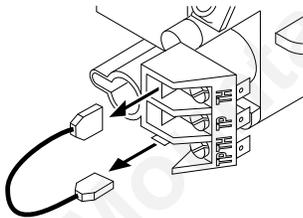

Figure 40 - Disconnecting TH to TPTH Wire
5. Remove wire from TH to TPTH on control valve (see Figure 40).